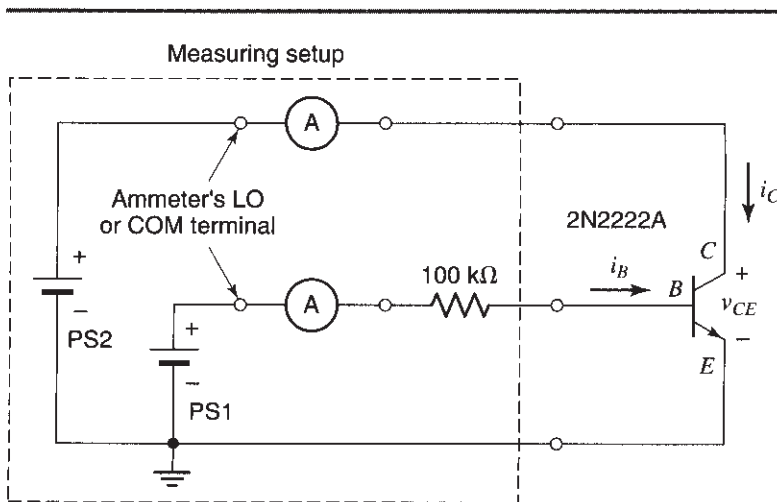

Fig. 3
1. You will measure the transistor characteristics, using the setup in Fig. 3. The part labeled "Measuring setup" is a piece of instrumentation designed for making transistor measurements. The voltage of PS1 is used for varying the base current,  $i_B$ . The resistor is used for limiting this current (connecting PS1 directly across the base emitter would be risky since the base current depends exponentially on the base-emitter